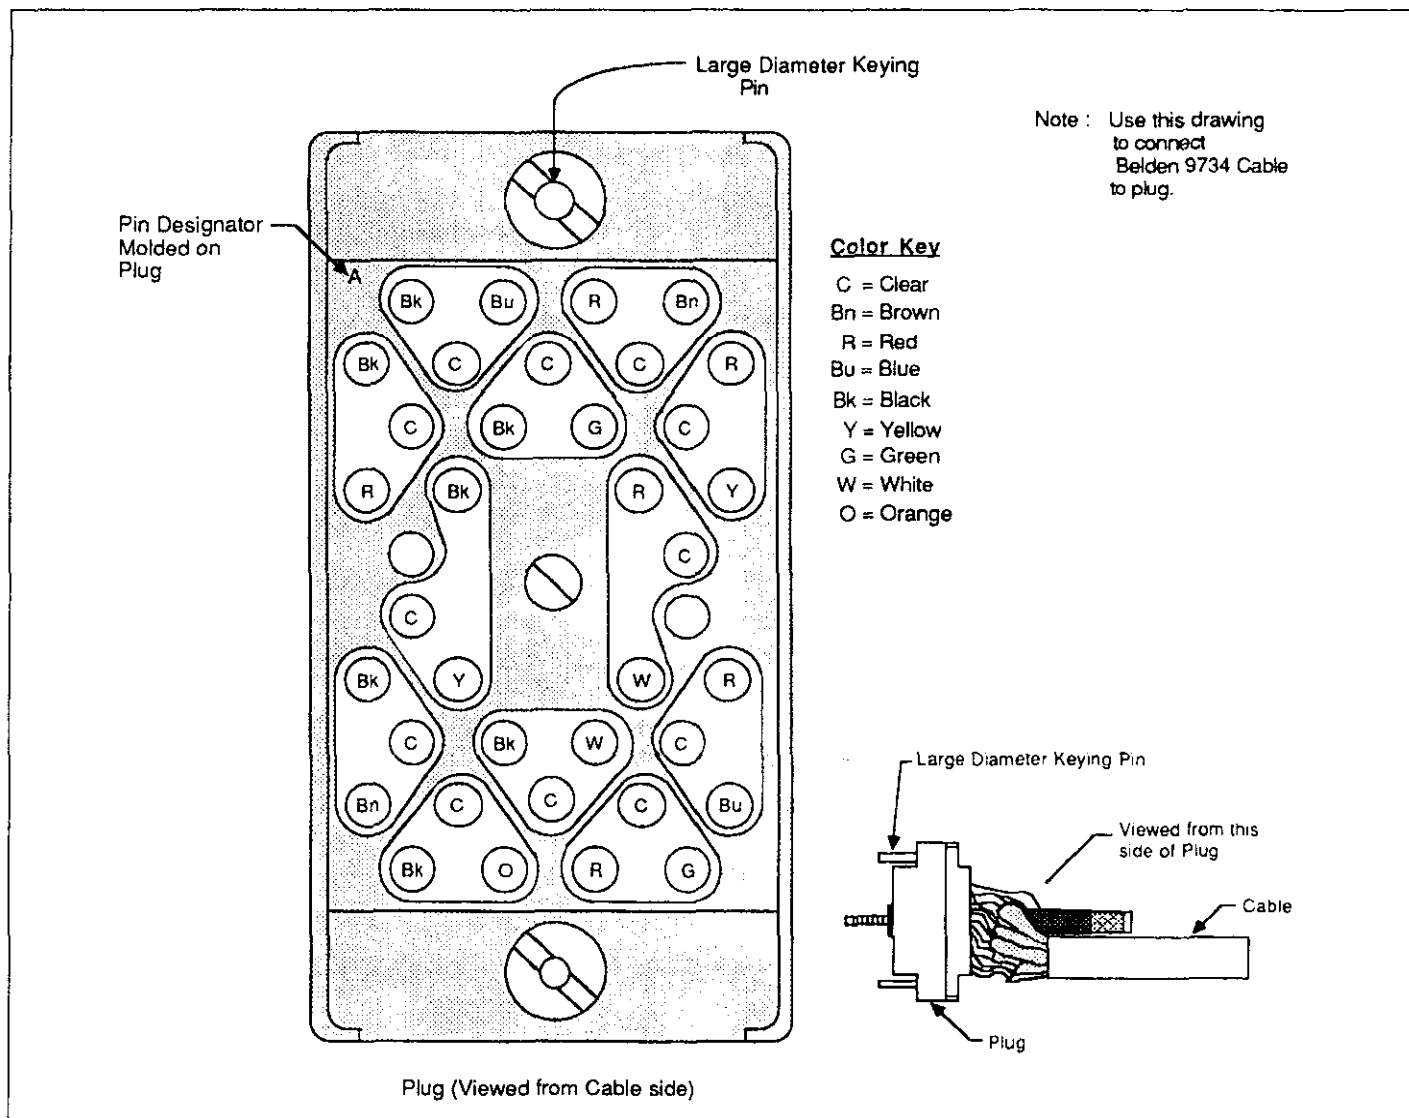
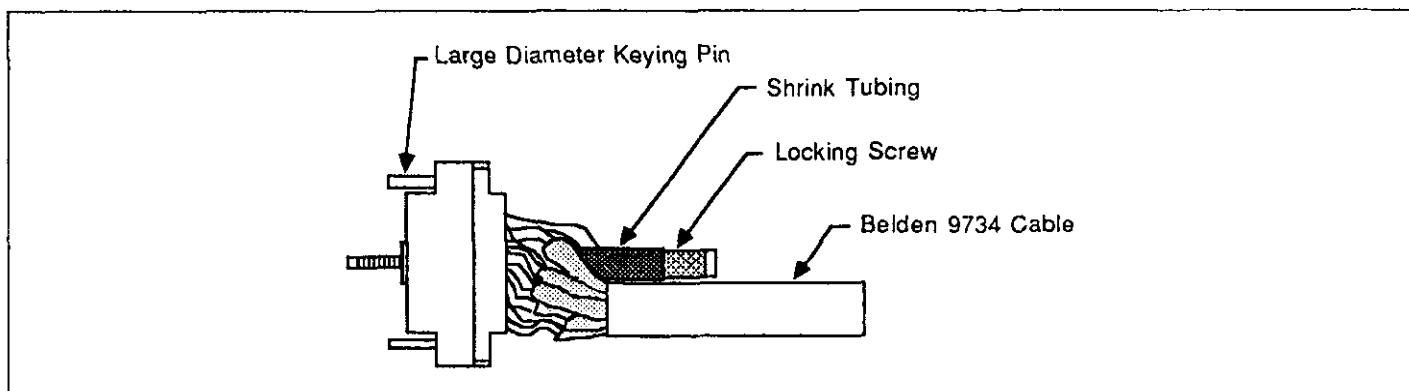
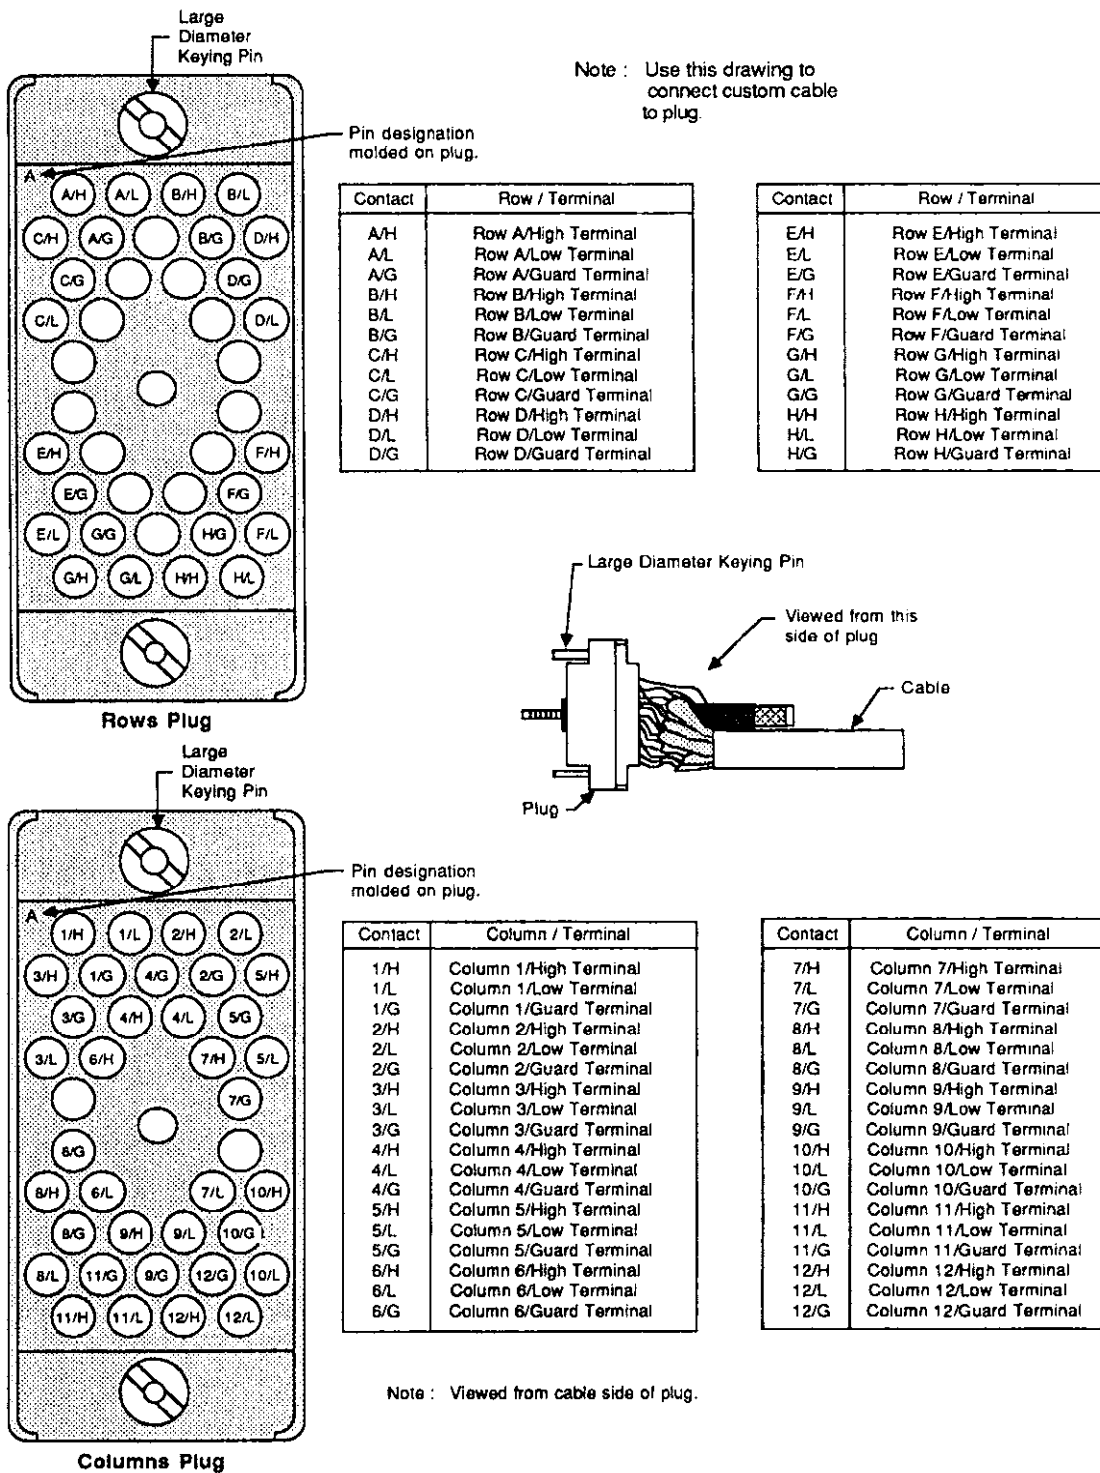

Figure 2-14. Connecting Belden 9734 Cable to Plug
Figure 2-15. Cable Positions
Figure 2-23. Plug Contact Assignments
The following procedure shows how to properly connect a 36 conductor cable to a "rack and panel" plug. The cable used in the procedure is the same one used in the Model 7078-MTC and is available from Belden (P/N 9734). Modify the procedure accordingly if using a different cable or individual wires and use Figure 2-23 instead of Figure 2-14.
Figure 2-14 shows where the wires of each bundle belong. The wires in each bundle have a unique color combination that is different from the color combination of any other bundle.
7. Insulate the locking screws of the plug with shrink tubing as shown in Figure 2-15.
8. Orient the cable to the plug as shown in Figure 2-15, and using Figure 2-14 as a guide, insert the wire crimp tails into the plug. Use the Model 7078 CIT insertion tool to push each wire crimp tail completely into the plug.